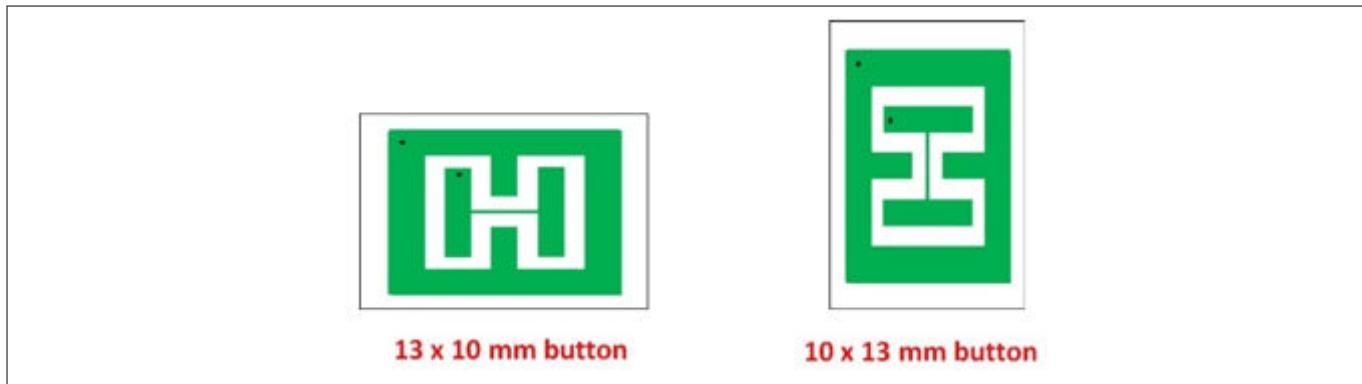

Figure 312 Arbitrary shape button design based on arbitrary pattern
- Then in the user interface or above the overlay print button shape with required dimension over the fishbone pattern as shown in Figure 312